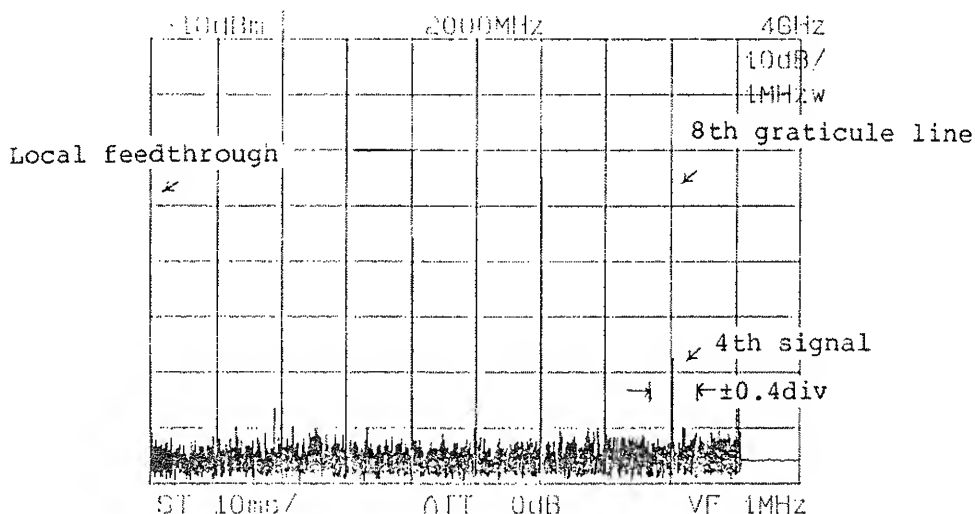

Figure 11-1 Frequency Span 4 GHz Test
Referring to Figure 11-1, connect the output of TR4511 synthesized signal source to the INPUT connector of the spectrum analyzer.
③ Set the output of TR4511 synthesized signal source to -5 dBm, 800 MHz, modulation off.
④ Turning the TUNING dial on the spectrum analyzer, adjust the local feedthrough (zero carrier wave) to position it on the leftmost graticule on the display screen. Check that the 4th signal (3.2 GHz) from the local feedthrough (without counting the feedthrough itself) is positioned on or within ± 0.4 division of the eighth graticule from the left most graticule (without counting the leftmost graticule itself). (See Figure 11-1.)